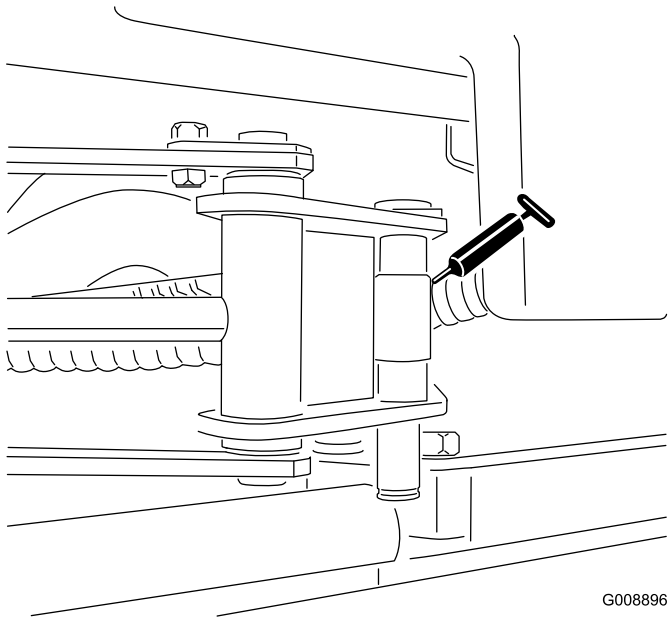

Figure 52
- SideWinder cylinder ends (2; Model 03171 only) (Figure 52)